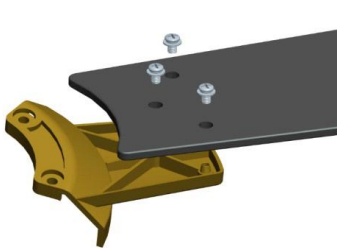

Fig 1.1
1.1 Locate 15 blade attachment screws in the hardware pack. Secure each blade to the blade bracket using blade screws as shown in Fig 1.1.